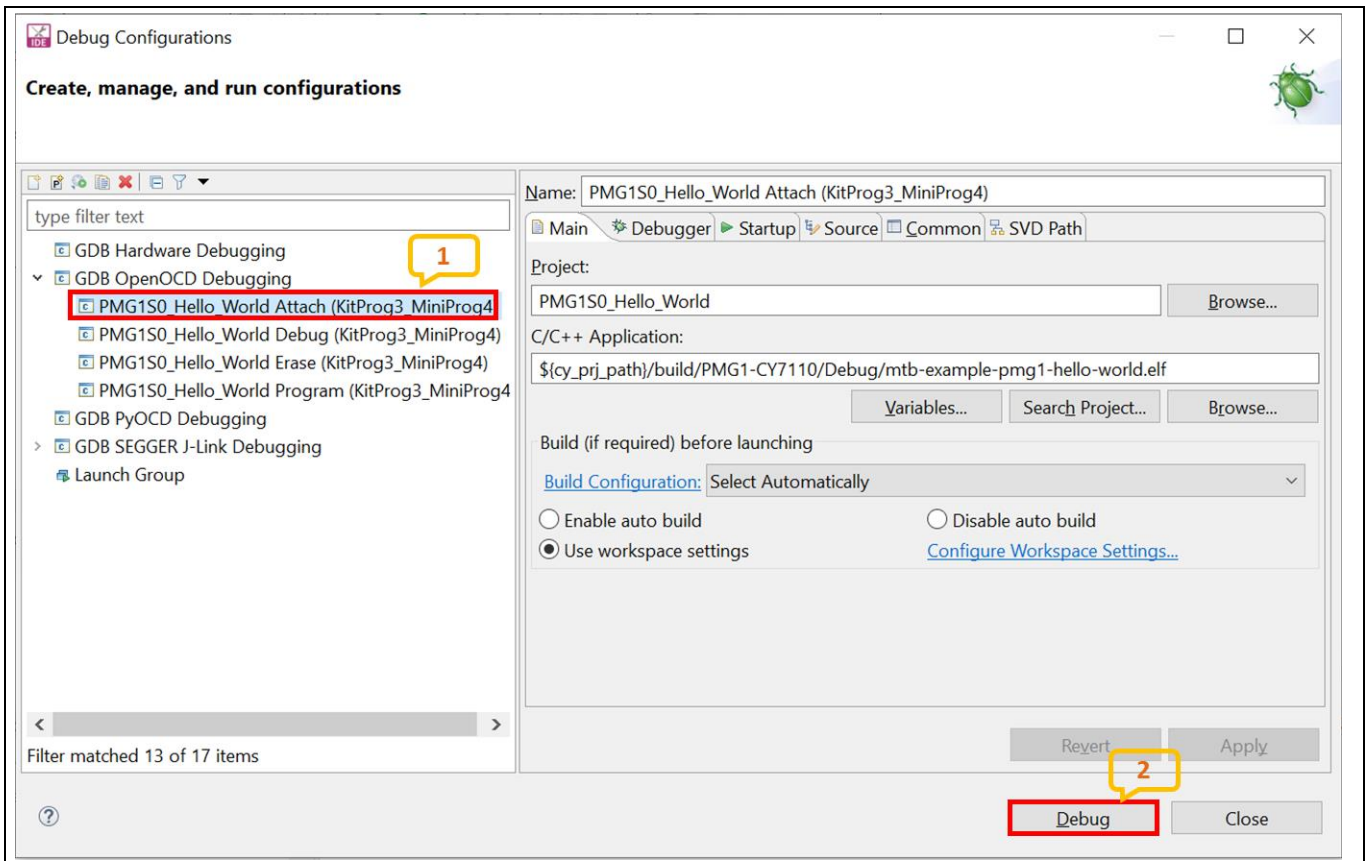

Figure 44 Selecting debug attach and starting a debug session
8. Under GDB OpenOCD Debugging, select **<Application name> Attach (KitProg3_MiniProg4)** and click on **Debug** as shown in **Figure 44**.